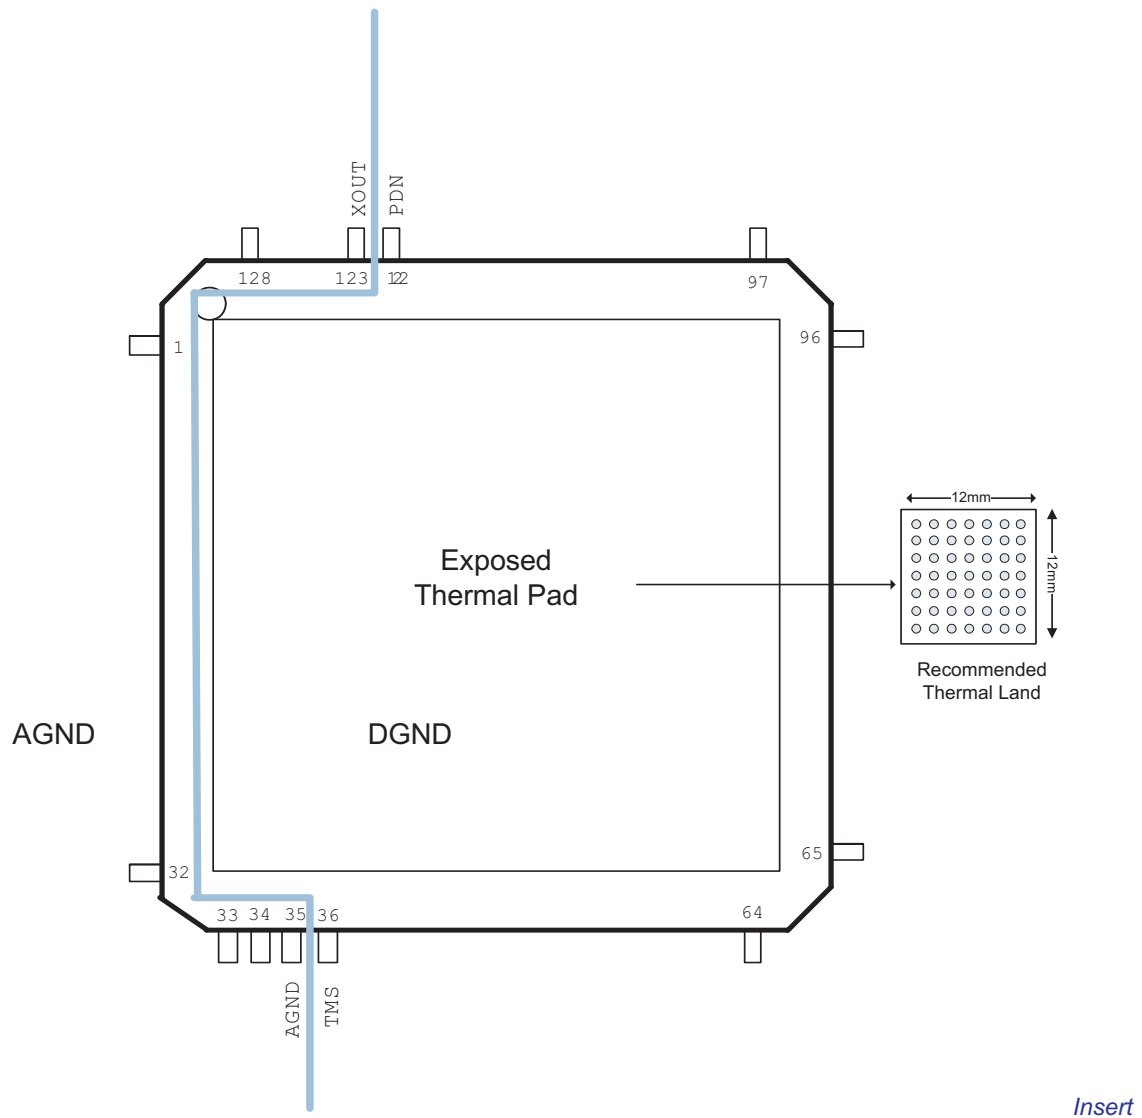

Figure 1. Split Ground Planes (TQFP Package)
13. See Figure 1 for recommended GND split.